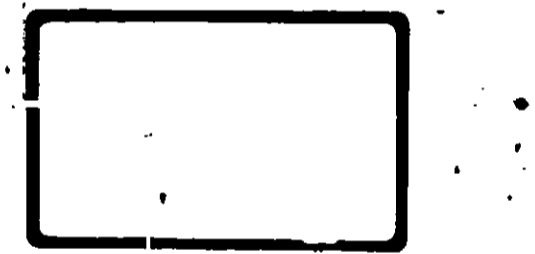

Figure 1 Top View of Feeder on Recirculation System
Shut the pump off. Using Figure 1 as a guide, select a spot on the **side** of the return line to the pond close to the filter that will accommodate the feeder pump assembly (E). (Point 1 in Figure 1). **A horizontal section of pipe is preferred to a vertical section.** Drill a hole through the pipe and remove all the burrs with a knife or file. Insert the tube pipe fitting and clamp it in place. Keep the fitting perpendicular to the pipe to insure a good gasket seal.
A small portion of the circulating pool water is diverted into the feeder chamber through the tubing connected to the return line to the pool. The water is chlorinated in the feeder and returned to the suction side of the pump. (See Figure 1.)